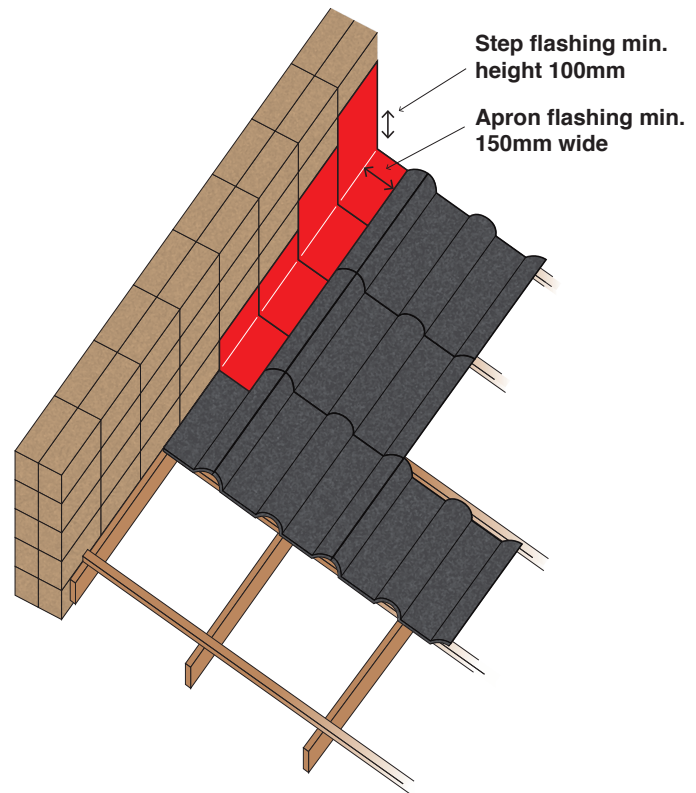

Fig 3.
- » If installed as an external/step flashing the flashing should be over-flashed (Refer to Fig.3).